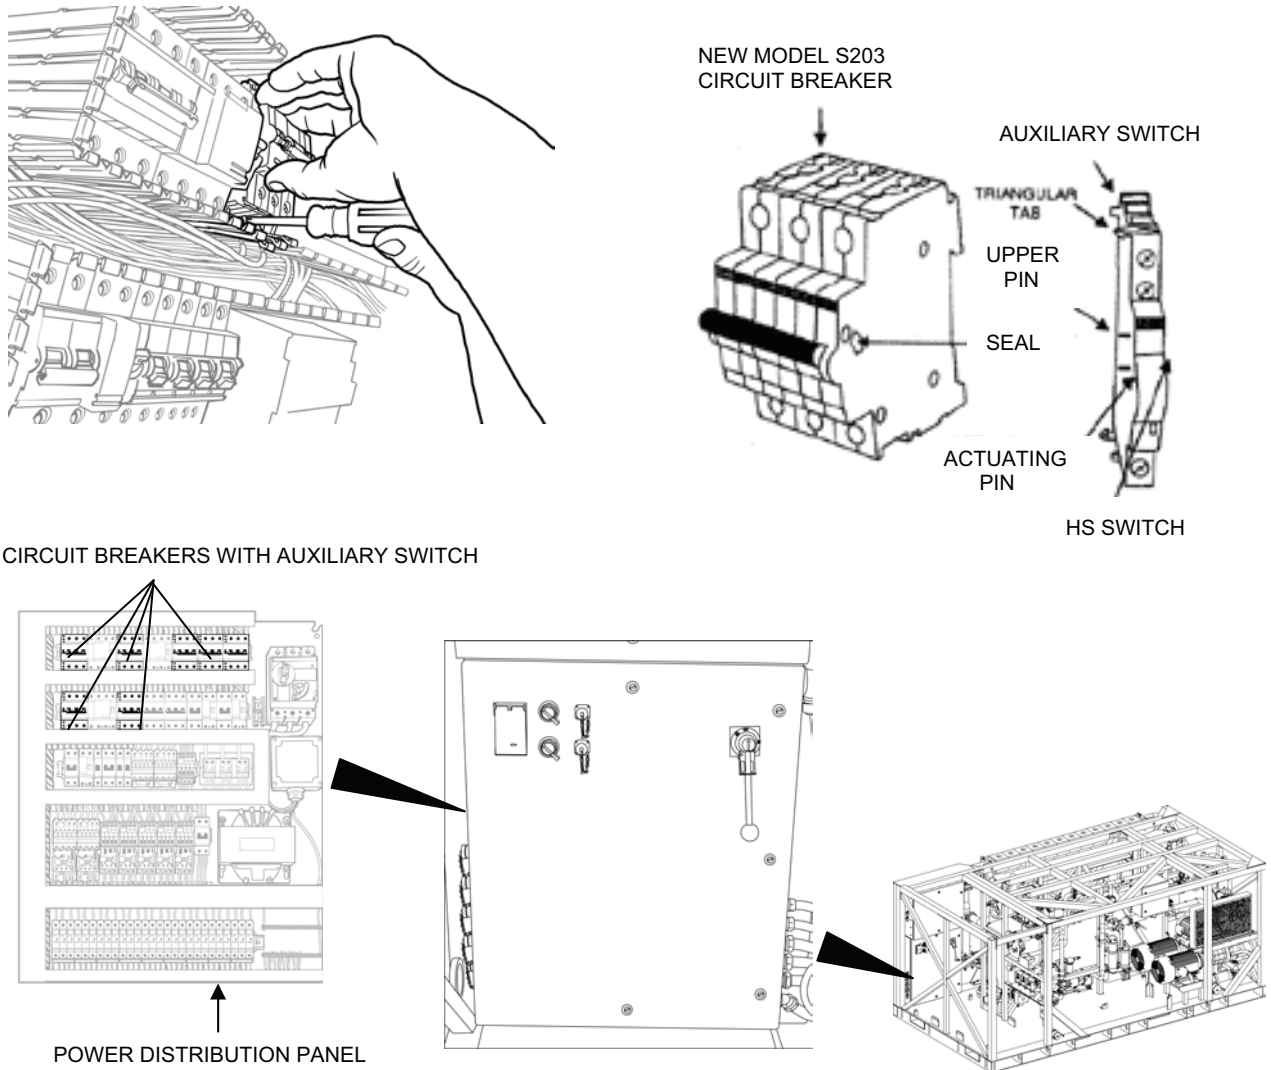

Figure 1. Circuit Breaker with Auxiliary Switch Replacement.
1. Remove a circuit breaker with an auxiliary switch as follows (see Figure 1):
2. Install a new model S203 circuit breaker and auxiliary switch as follows (see Figure 1):